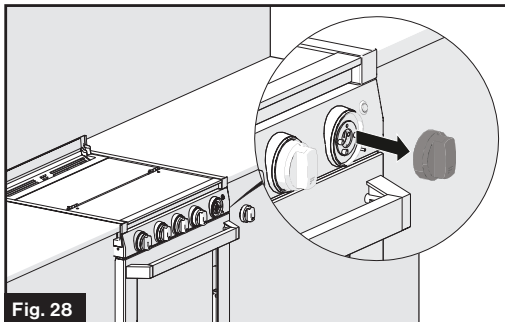

Fig. 28
- Grasp and pull on the control knob with the broken LED light. (Fig. 28)